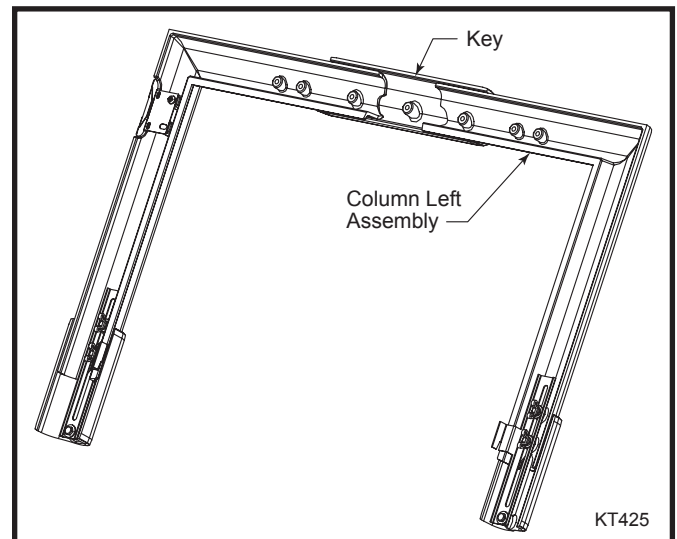

Fig. 2 Place column left assembly onto key.
3. Place the column left assembly (30002074) onto the key. (Fig. 2)